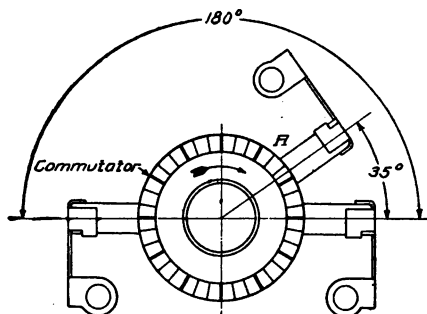

Fig. 54. Midco Third-Brush Regulation
**Regulation.** Roughly speaking, the voltage and therefore the current, other things remaining equal, of a generator increases with the speed of the machine. If the generating device is designed to keep the battery in a charged condition at reasonable driving speeds, one can imagine the high charging rate that would result if there were no regulation of the output, and the driver "let her out" for several miles over a fine stretch of country concrete. Such a charging rate would probably burn out the winding of the generator itself and also cause serious damage to the battery, owing to overheating and a resulting buckling and falling to pieces of the plates of the battery. One method of regulation is to take advantage of the distortion of the field and attach one end of the field windings to a third brush, as at *A*, Fig. 54. This is known as the third-brush regulation and as the speed increases, the strength of the field automatically decreases, thus counteracting the effect that speed ordinarily has upon the current output. In other cases